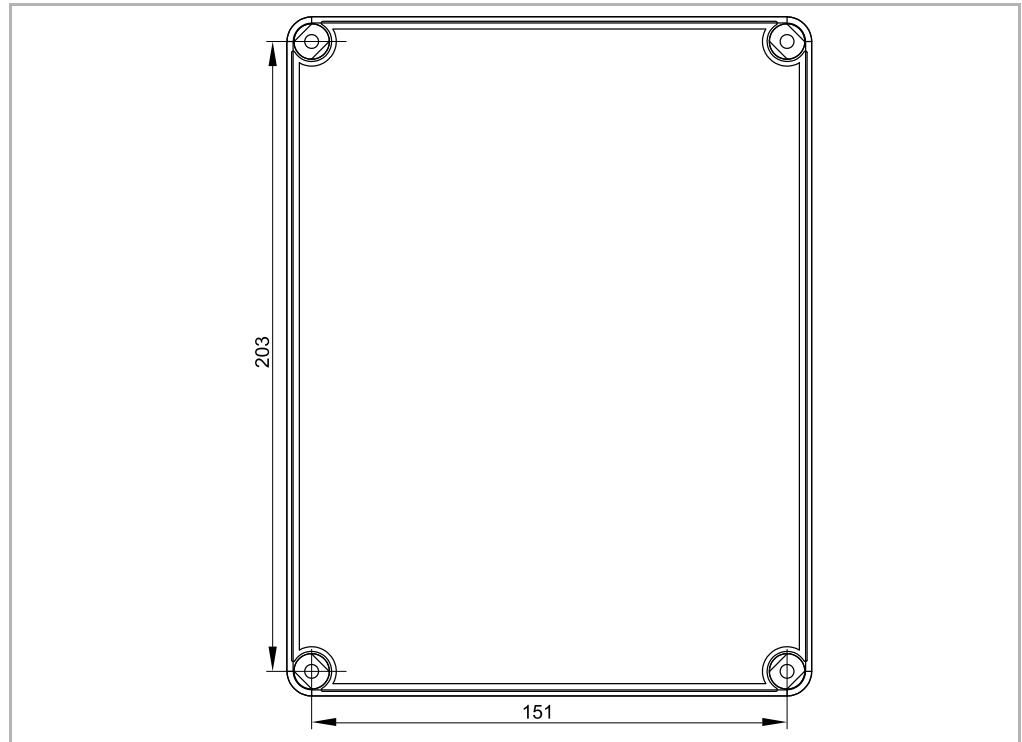

Fig. 4-3: Drill template for MC4 switch unit
- When assembling the MC4 switch unit, consider the distances for openings shown below (see Fig. 4-3).
- Fix the mounting plate (the bottom part) of the MC4 switch unit to the wall using the mounting openings (see Fig. 4-3).